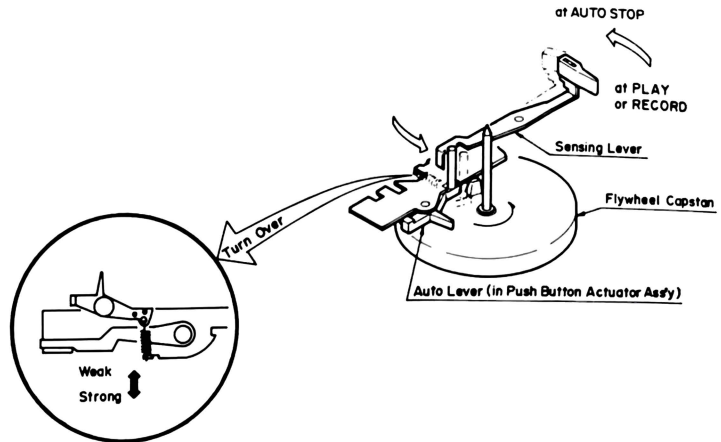

Figure 10
- 1) Check to see if the head base fastening sensing lever, auto lever and spring are too loose or too secure (Figure 10).